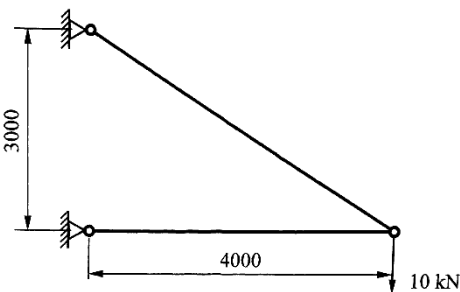

Figure 4 (Q 5c-or)
- (c)** For two member Struss as shown in figure 4, derived global stiffness matrix and determine deflection at node 2. **07**